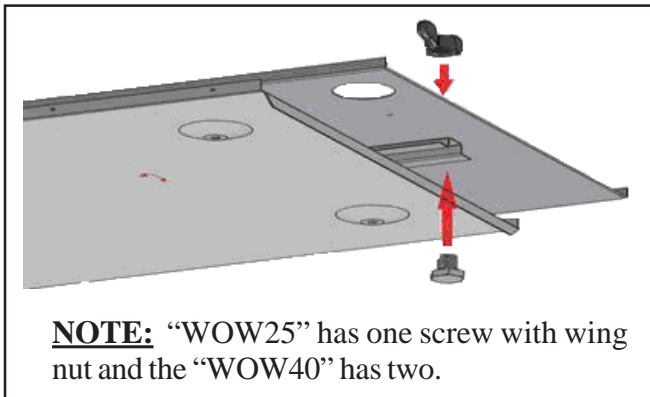

FIGURE 5
- C.) Remove front panel from heater. Locate and remove wing nut securing inner liner to the outer cabinet. See Figure 5.
- D.) Remove front panel from heater. Locate and remove wing nut securing inner liner to the outer cabinet. See Figure 5.